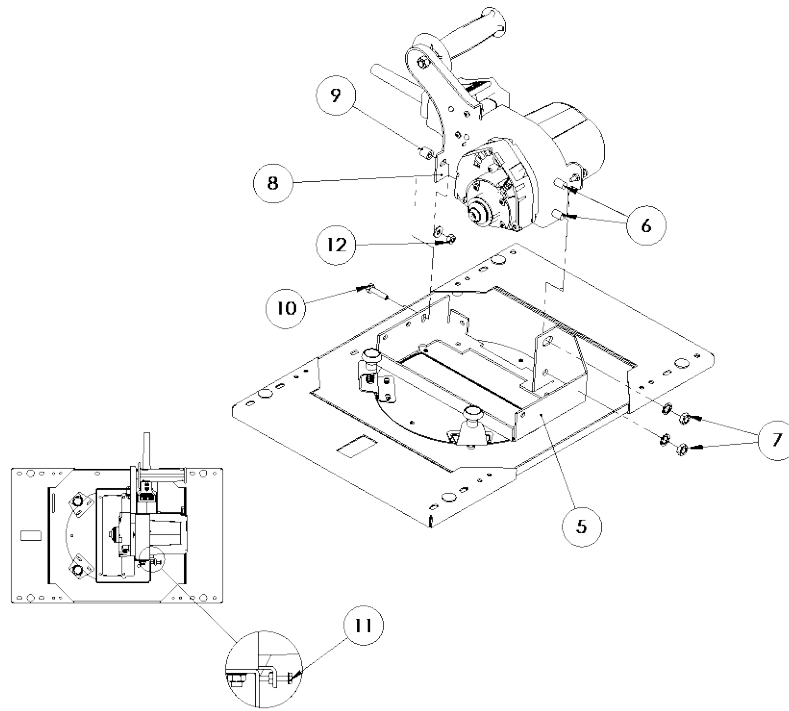

Figure 17: Mounting the Saw Motor (C-Series and H-Series)
2. Mount the motor to the carriage by inserting the studs (Fig. 17, #6) on the saw motor through the holes in the turntable (#5). Install the washers and nuts (#7), and hand-tighten only.
3. The bracket (Fig. 17, #8) that extends from the saw handle has a single hole. Place the spacer (#9) between the bracket on the turntable and the bracket on the saw handle. Align that hole with the hole in the turntable as shown in Fig. 17, and insert the bolt (#10). Install the nut (#12), and hand-tighten only.
4. Make sure the bolt (Fig. 17, #11) on the saw motor plate is flush against the turntable bracket as shown, to ensure the saw is square. This bolt (#11) is factory-set and does not require adjustment when the tool is being installed.
5. **Tighten the two bottom nuts first** (Fig. 17, #7), and the top nut (#12) last.